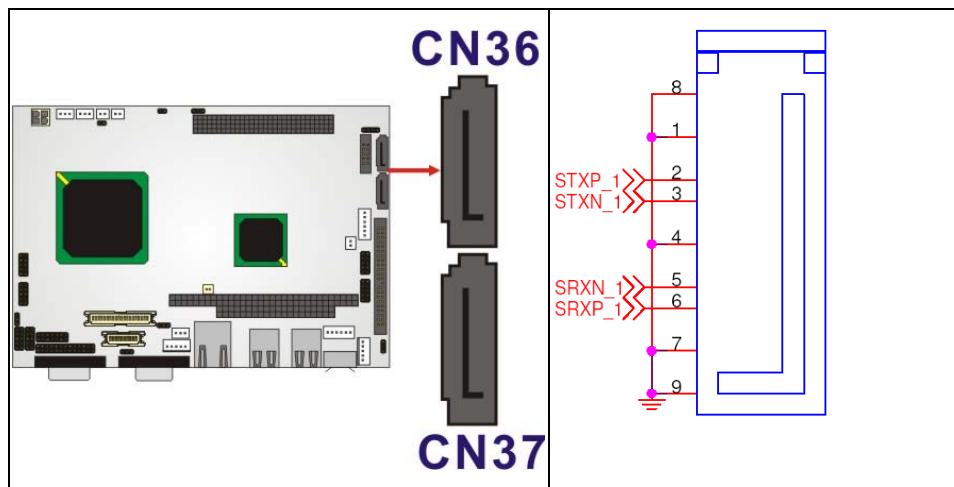

Figure 4-23: CN10, CN11 Connector Locations
- CN Location:** See **Figure 4-23**